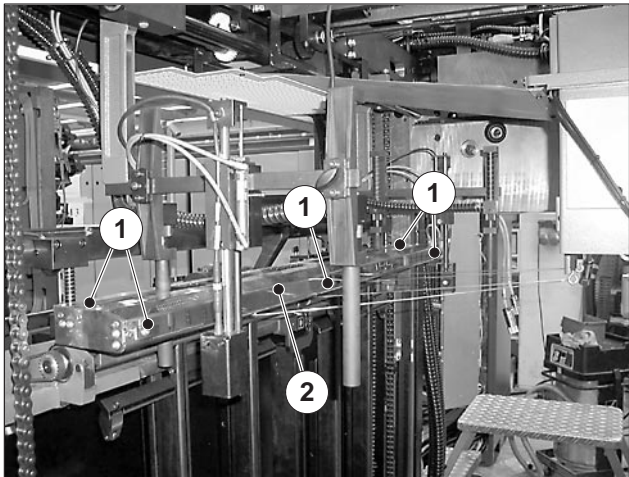

Fig. 52
15. Insert the cover plate (Fig. 52/2) and tighten the five screws (Fig. 52/1) on the cover plate.